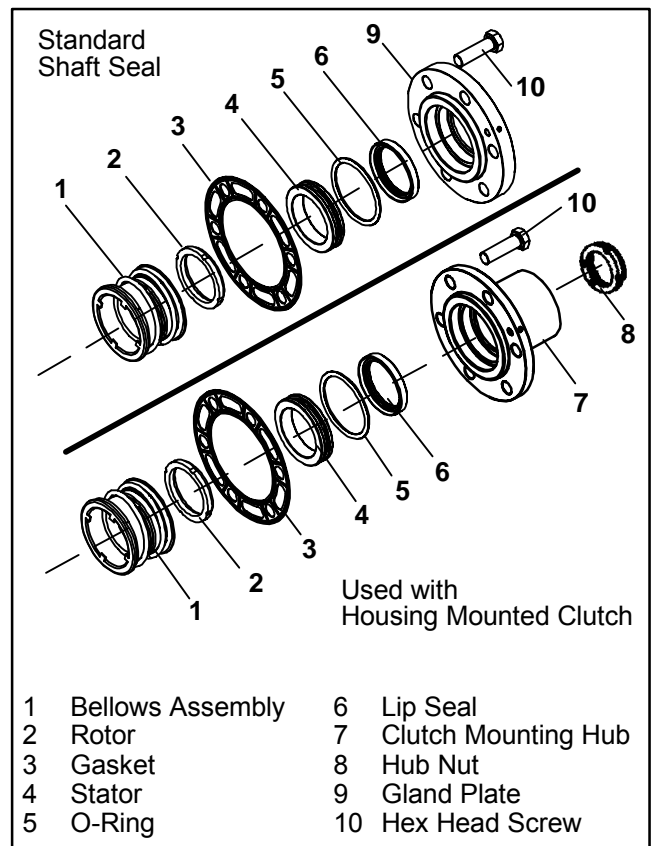

Figure 3-7. Shaft Seal
a. Remove 6 capscrews, remove the shaft gland plate or clutch mounting hub. Remove rotor from top of bellows assembly. (See Figure 3-7)